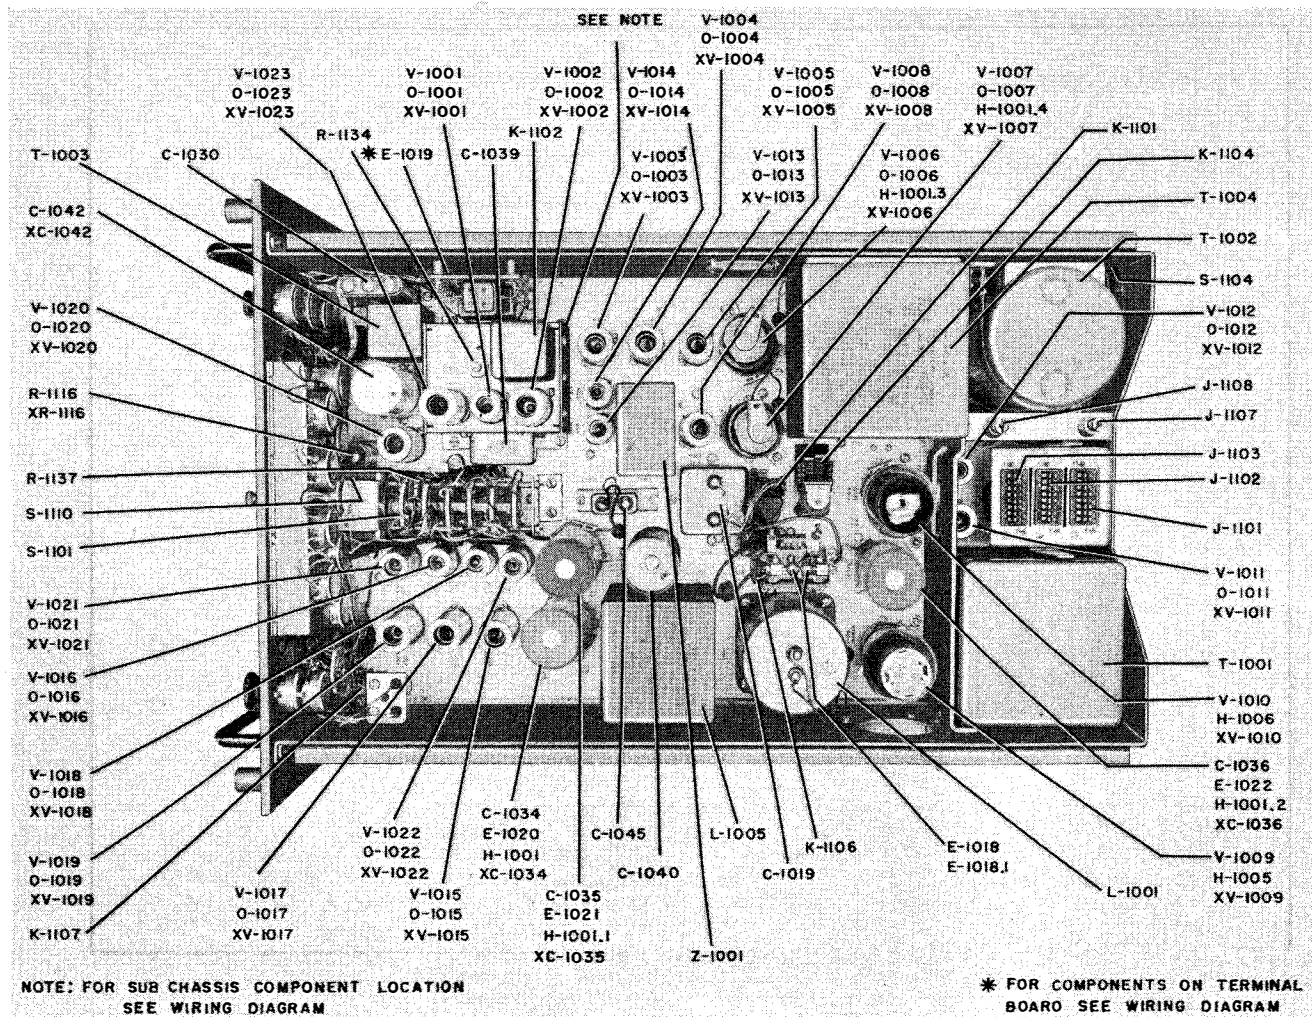
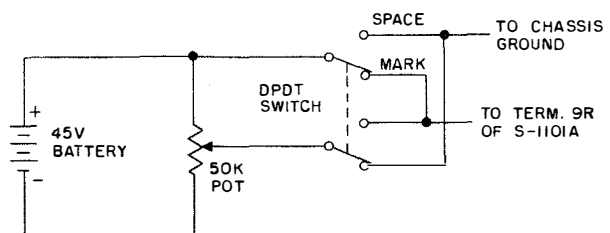

Figure 7-58. Radio Modulator MD-229/SRT (LLRM), Top View
Figure 7-61. LLRM Test Circuit for Simulating Keying Signals
Using oscilloscope OS-8A/U cable W101, connect the vertical input of the oscilloscope to pin 3 of tube V-1004. See figure 7-58.
To readily determine whether the fault is in the last three stages (squelch circuit), use a clip lead and ground pin 2 on V-1013B (see figure 7-58), thus disabling the squelch circuit.
1. NEUTRAL POLAR MARK AND POLAR SPACE CONTROLS.—These controls are unit adjustments and are adjusted by means of an external test circuit, figure 7-61. This test circuit simulates variable voltage source of machine-keying operation. Components required are: a 45-volt battery, a 50 K potentiometer, and a double-pole, double-throw switch wired as illustrated in figure 7-61.
Step 1. Transmitter at 100-watt level, switch (P) at STANDBY; SERVICE SELECTOR switch (U) at MACH; NEUT. POLAR switch (R) at NEUT.; TEST KEY (T) at center position.
Step 2. Connect output of test circuit between terminal 9R of S-1101A and chassis ground. This terminal (9R) has a gray-red wire connected to it. S-1101A is the first switch wafer of the service selector switch (U). See figure 7-58.
Step 1. With the transmitter in stand-by condition set SERVICE SELECTOR switch (U) in HAND position.
Step 2. Remove clipper tube V-1018 (see figure 7-58).
Step 4. Operate TEST KEY (T) to its locked-up position and adjust ZERO ADJ. for a reading of +25 volts on the meter.
Step 5. Return TEST KEY (T) to its normal position and reverse the polarity of the meter. The meter should now read approximately -30 volts (± 10 volts).
Step 6. Set SERVICE SELECTOR switch (U) to the MACH. position. The meter should still read as in step 5.
Step 7. Reverse polarity of meter and operate switch (V) to MARK. The meter should now read as in step 4.
Step 1. Transmitter in stand-by, SERVICE SELECTOR switch (U) at FSK.
loscope (OS-8A/U or equivalent) to the white-blue-green wire of the fourth wafer (counting from front to rear) on the SERVICE SELECTOR switch (U) S-1101. (See figure 7-58.)